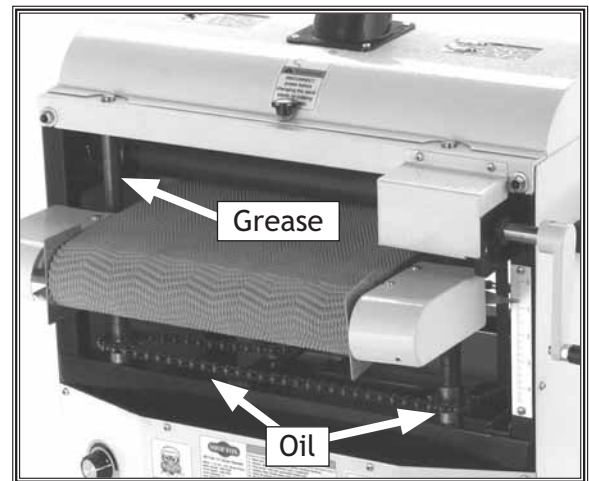

Figure 15. Sprocket, lead screw, and chain lubrication.
- **Lead Screws:** Lightly lubricate the four lead screws (Figure 15) once a month with general purpose grease.
- **Drive Chain:** Inspect and lubricate the drive chain with oil (Figure 15) monthly. Check the sprockets, the chain, and the master links during inspection.